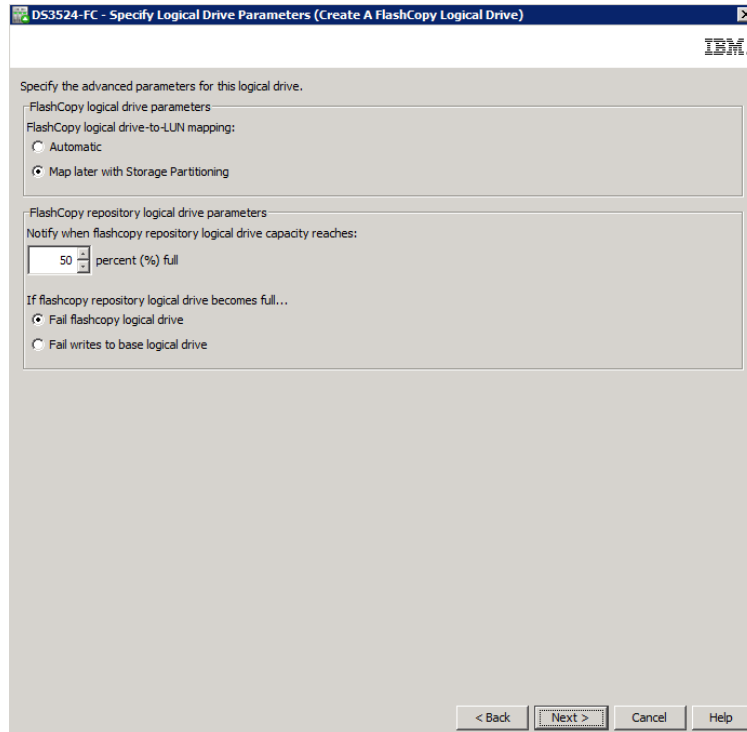

Figure 2-21 Create FlashCopy logical drive: Specify parameters
- d. The Specify Logical Drive Parameters window opens, shown in Figure 2-21 opens. Define the FlashCopy logical drive-to-LUN mapping parameter and the FlashCopy repository logical drive full conditions. For more information, see 2.1.3, "FlashCopy failure policy" on page 18. Click **Next**.